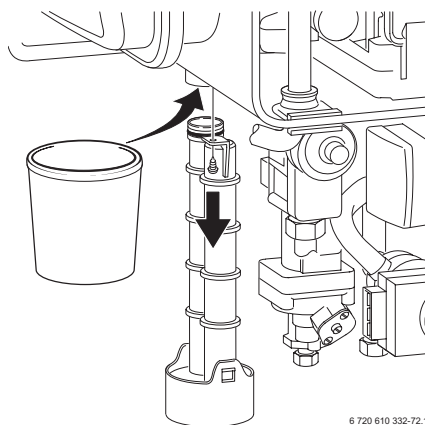

Fig. 53
- ▶ Unscrew condensation trap and place suitable container underneath. Refer to fig. 53.
In order to prevent spillage of condensate, the condensation trap should be completely removed, (see page 36, fig. 53).